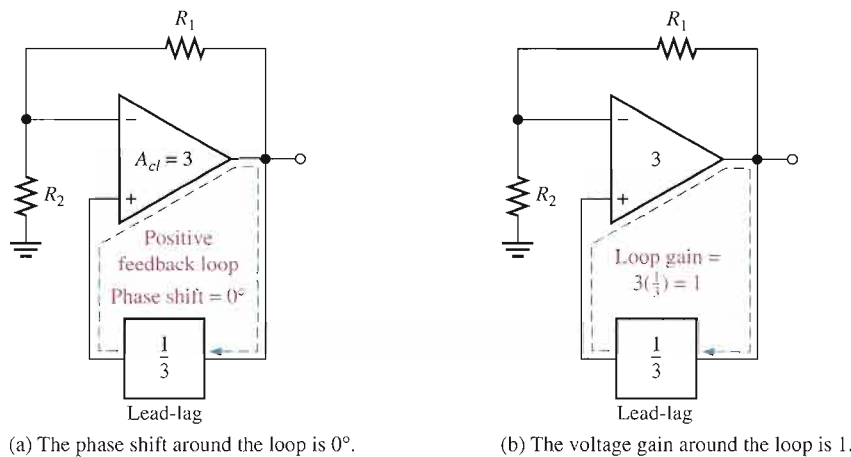

FIGURE 16–8
The circuit is redrawn in Figure 16–7(b) to show that the op-amp is connected across the bridge circuit. One leg of the bridge is the lead-lag circuit, and the other is the voltage divider.
Positive Feedback Conditions for Oscillation As you know, for the circuit to produce a sustained sinusoidal output (oscillate), the phase shift around the positive feedback loop must be 0° and the gain around the loop must equal unity (1). The 0° phase-shift condition is met when the frequency is f_r because the phase shift through the lead-lag circuit is 0° and there is no inversion from the noninverting (+) input of the op-amp to the output. This is shown in Figure 16–8(a).
This offsets the $1/3$ attenuation of the lead-lag circuit, thus making the total gain around the positive feedback loop equal to 1, as depicted in Figure 16–8(b). To achieve a closed-loop gain of 3,
Start-Up Conditions Initially, the closed-loop gain of the amplifier itself must be more than three ($A_{cl} > 3$) until the output signal builds up to a desired level. Ideally, the gain of the amplifier must then decrease to 3 so that the total gain around the loop is 1 and the output signal stays at the desired level, thus sustaining oscillation. This is illustrated in Figure 16–9.
The circuit in Figure 16–10 illustrates a method for achieving sustained oscillations. Notice that the voltage-divider circuit has been modified to include an additional resistor R_3 in parallel with a back-to-back zener diode arrangement. When dc power is first applied, both